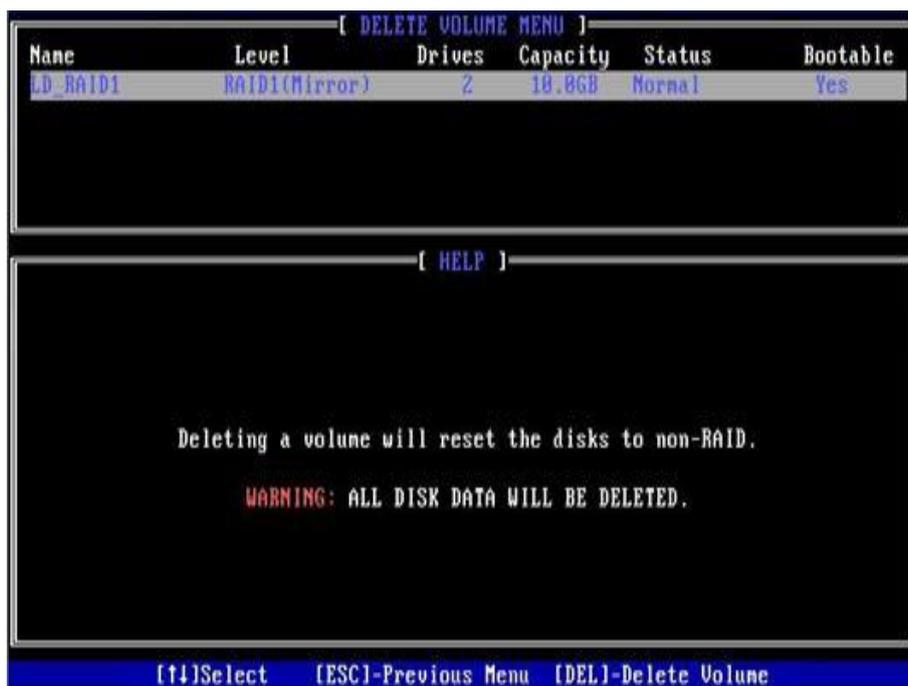

Fig.6.24
- c) Enter the interface shown in Fig. 6.24, select the RAID to be deleted, and press Delete to complete the deletion.